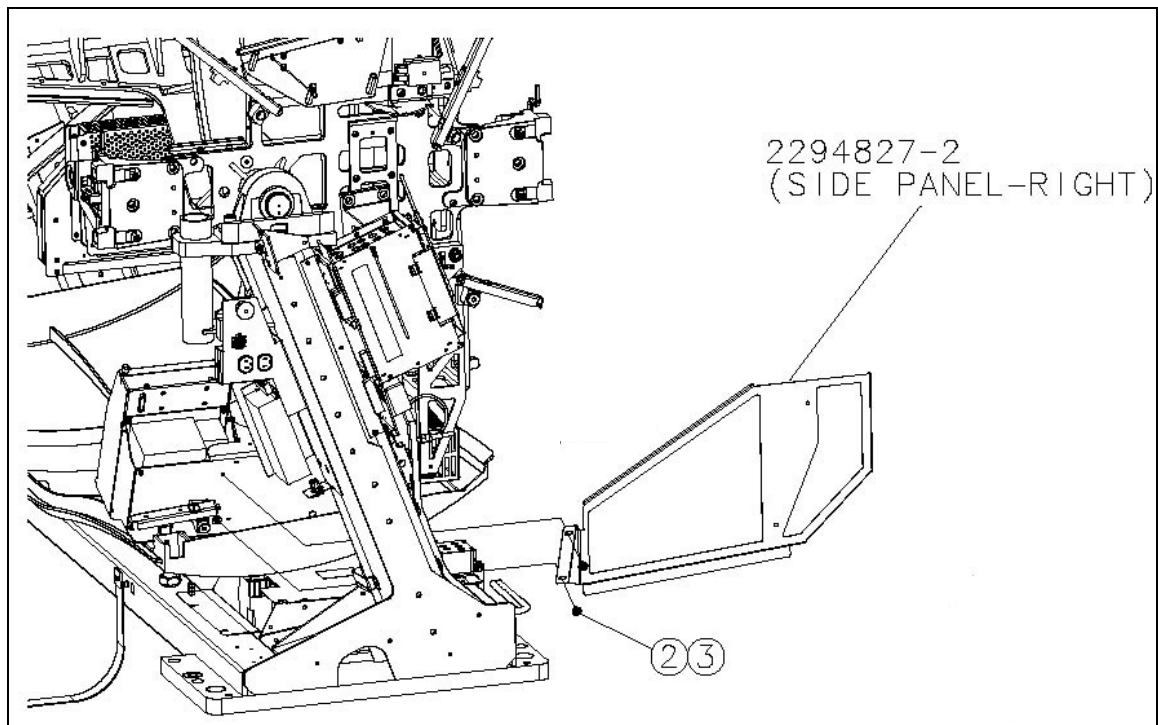

Figure 1. Right Side Panel Placement
5. Using a 5 mm ball-end hex tool, loosely fasten panel with two screws (46-328417P12) and washers (46-328431P2) at the front edge (see Figure 1).